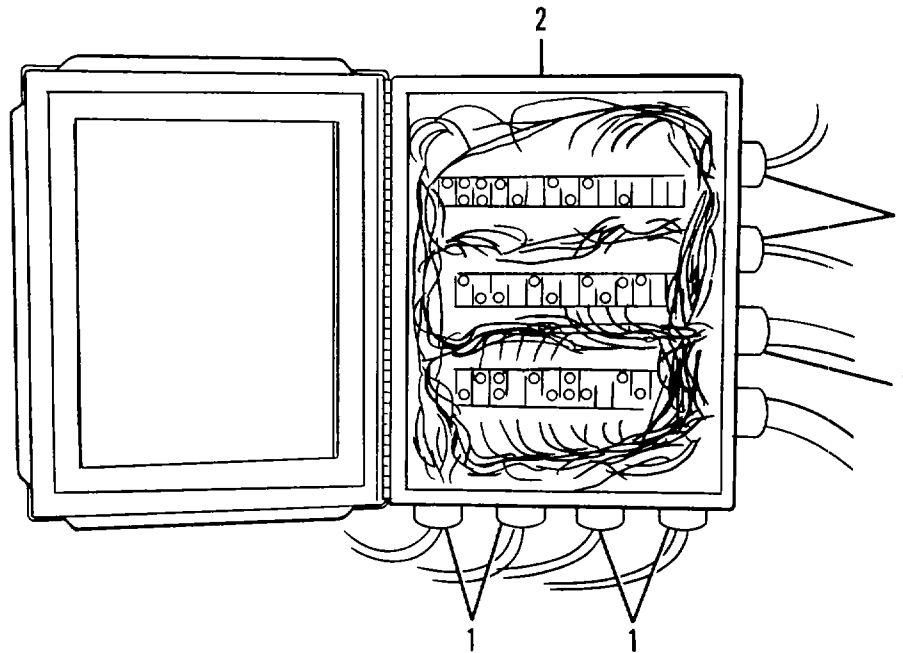

Figure 4-33.2. Junction Box.
- (13) Install the strain relief covers (1, Figure 4-33.2) for the control box, bumper, platform light and limit switch cables on the fittings of junction box (2).